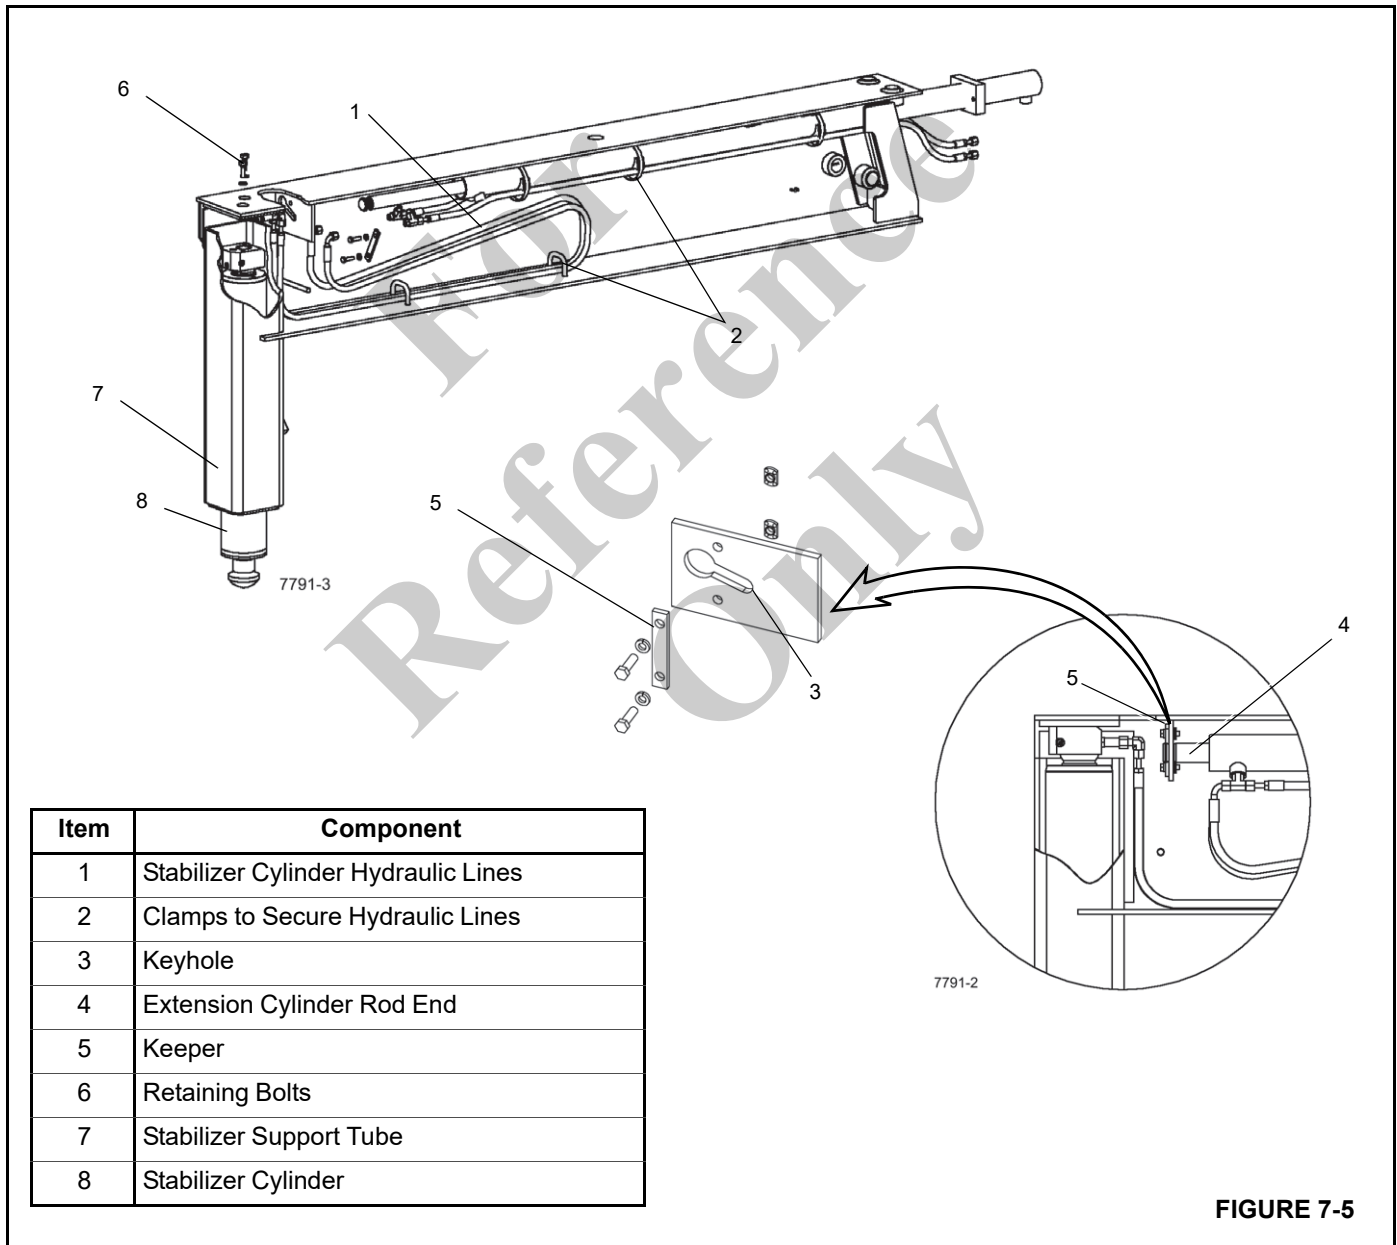

FIGURE 7-5
- 2. Remove the keeper (6, Figure 7-5) from the keyhole.
- 3. Remove the rod end of the extension cylinder (5) from the keyhole on the jack end of the outrigger beam.
2. Secure the jack hydraulic hoses to the extend cylinder with the clamps as shown in Figure 7-5.
3. Slide the extension cylinder into the outrigger beam. Make sure the jack hydraulic hoses are routed as shown in Figure 7-5.
1. With a lifting device, raise the truck until there is enough clearance to remove the jack cylinder (8, Figure 7-5) from the jack support tube (7).
4. Unbolt the retaining bolts (6) for the jack cylinder.
5. Slide the jack cylinder (8) out of the jack support tube (7).